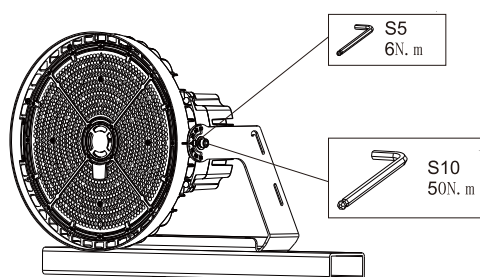

Figure 4
4. Use an open-end wrench and hex wrench to loosen the adjustment screw used to adjust the angle.(Figure 4)